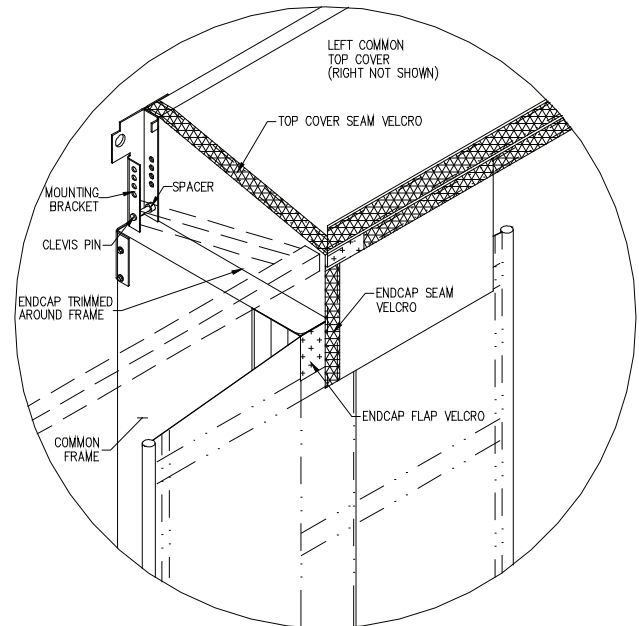

FIGURE 8
1. Starting from either side of the common member side frame, lift the top curtain/bar assembly while still packaged together and locate across the already installed side frames. Position it on top so as the side arms on the top frame are facing the wall and land between the mounting brackets on side frames, particularly on side of the common member. (See Figure 8)
7. Pull the end cap located on the common member side frame end, down into position. (See Figure 8) The endcap is designed to fit around the mounting bracket and top of side frame. There should be approximately 1" of material left over. This material can be used to trim to fit or left loose.